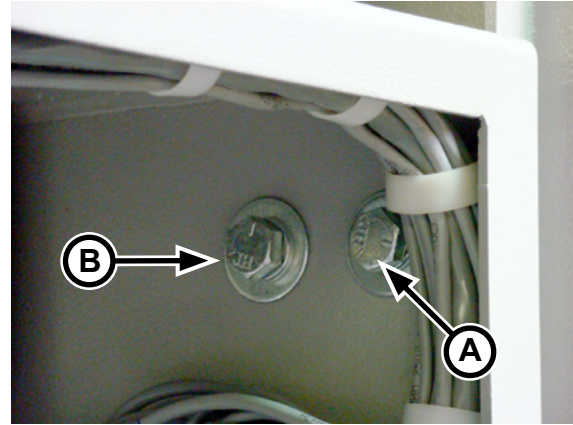

Figure 2-4: Make sure the O.P.L.'s mounting holes align with those on the moving posts.
10. Now, raise the unit until the mounting holes in the back of each endframe are even with the mounting holes on the moving posts (Figure 2-4).